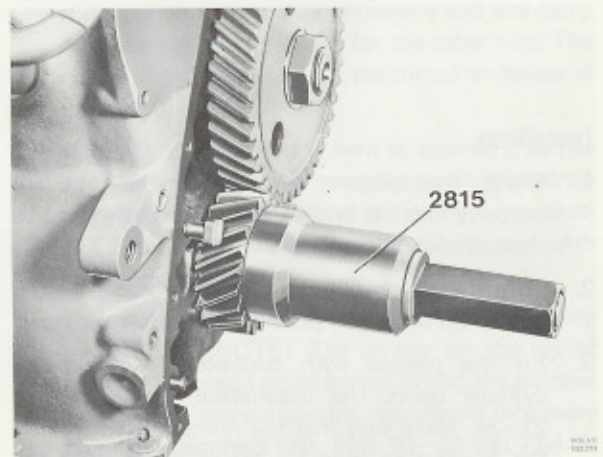

Fig. 21-38. Installing the polygon hub
4. Fit the polygon hub with press tool 2815, Fig. 21-38. Before fitting it, grease the slide surfaces of the hub. **Note the marking, punch pops on the end of the crankshaft and polygon hub.** Fit the centre bolt and tighten it to a torque of 95-105 Nm (9.5-10.5 kpm = 69-76 lbftf).
2. Fit the polygon hub with press tool 2815, Fig. 21-38. Before installing the hub, grease the hub slide surfaces. **Note the marking**, punch pops on the crankshaft end and polygon hub, fit the centre bolt and tighten it to a torque of 95-105 Nm (9.5-10.5 kpm = 69-76 lbftf).